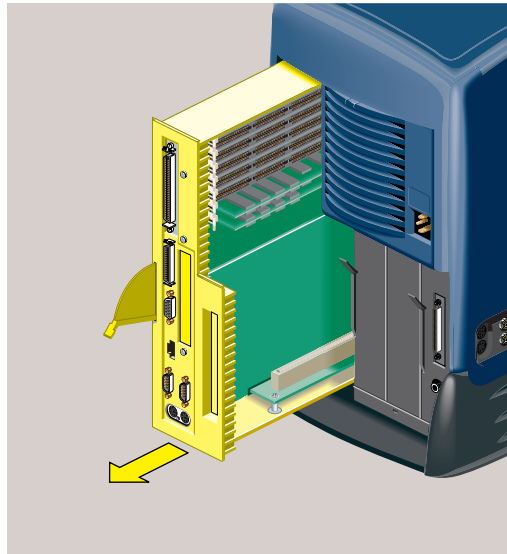

Figure 2-4 Remove the System Module From the Chassis
4. Slide the system module out of the chassis (Figure 2-4).